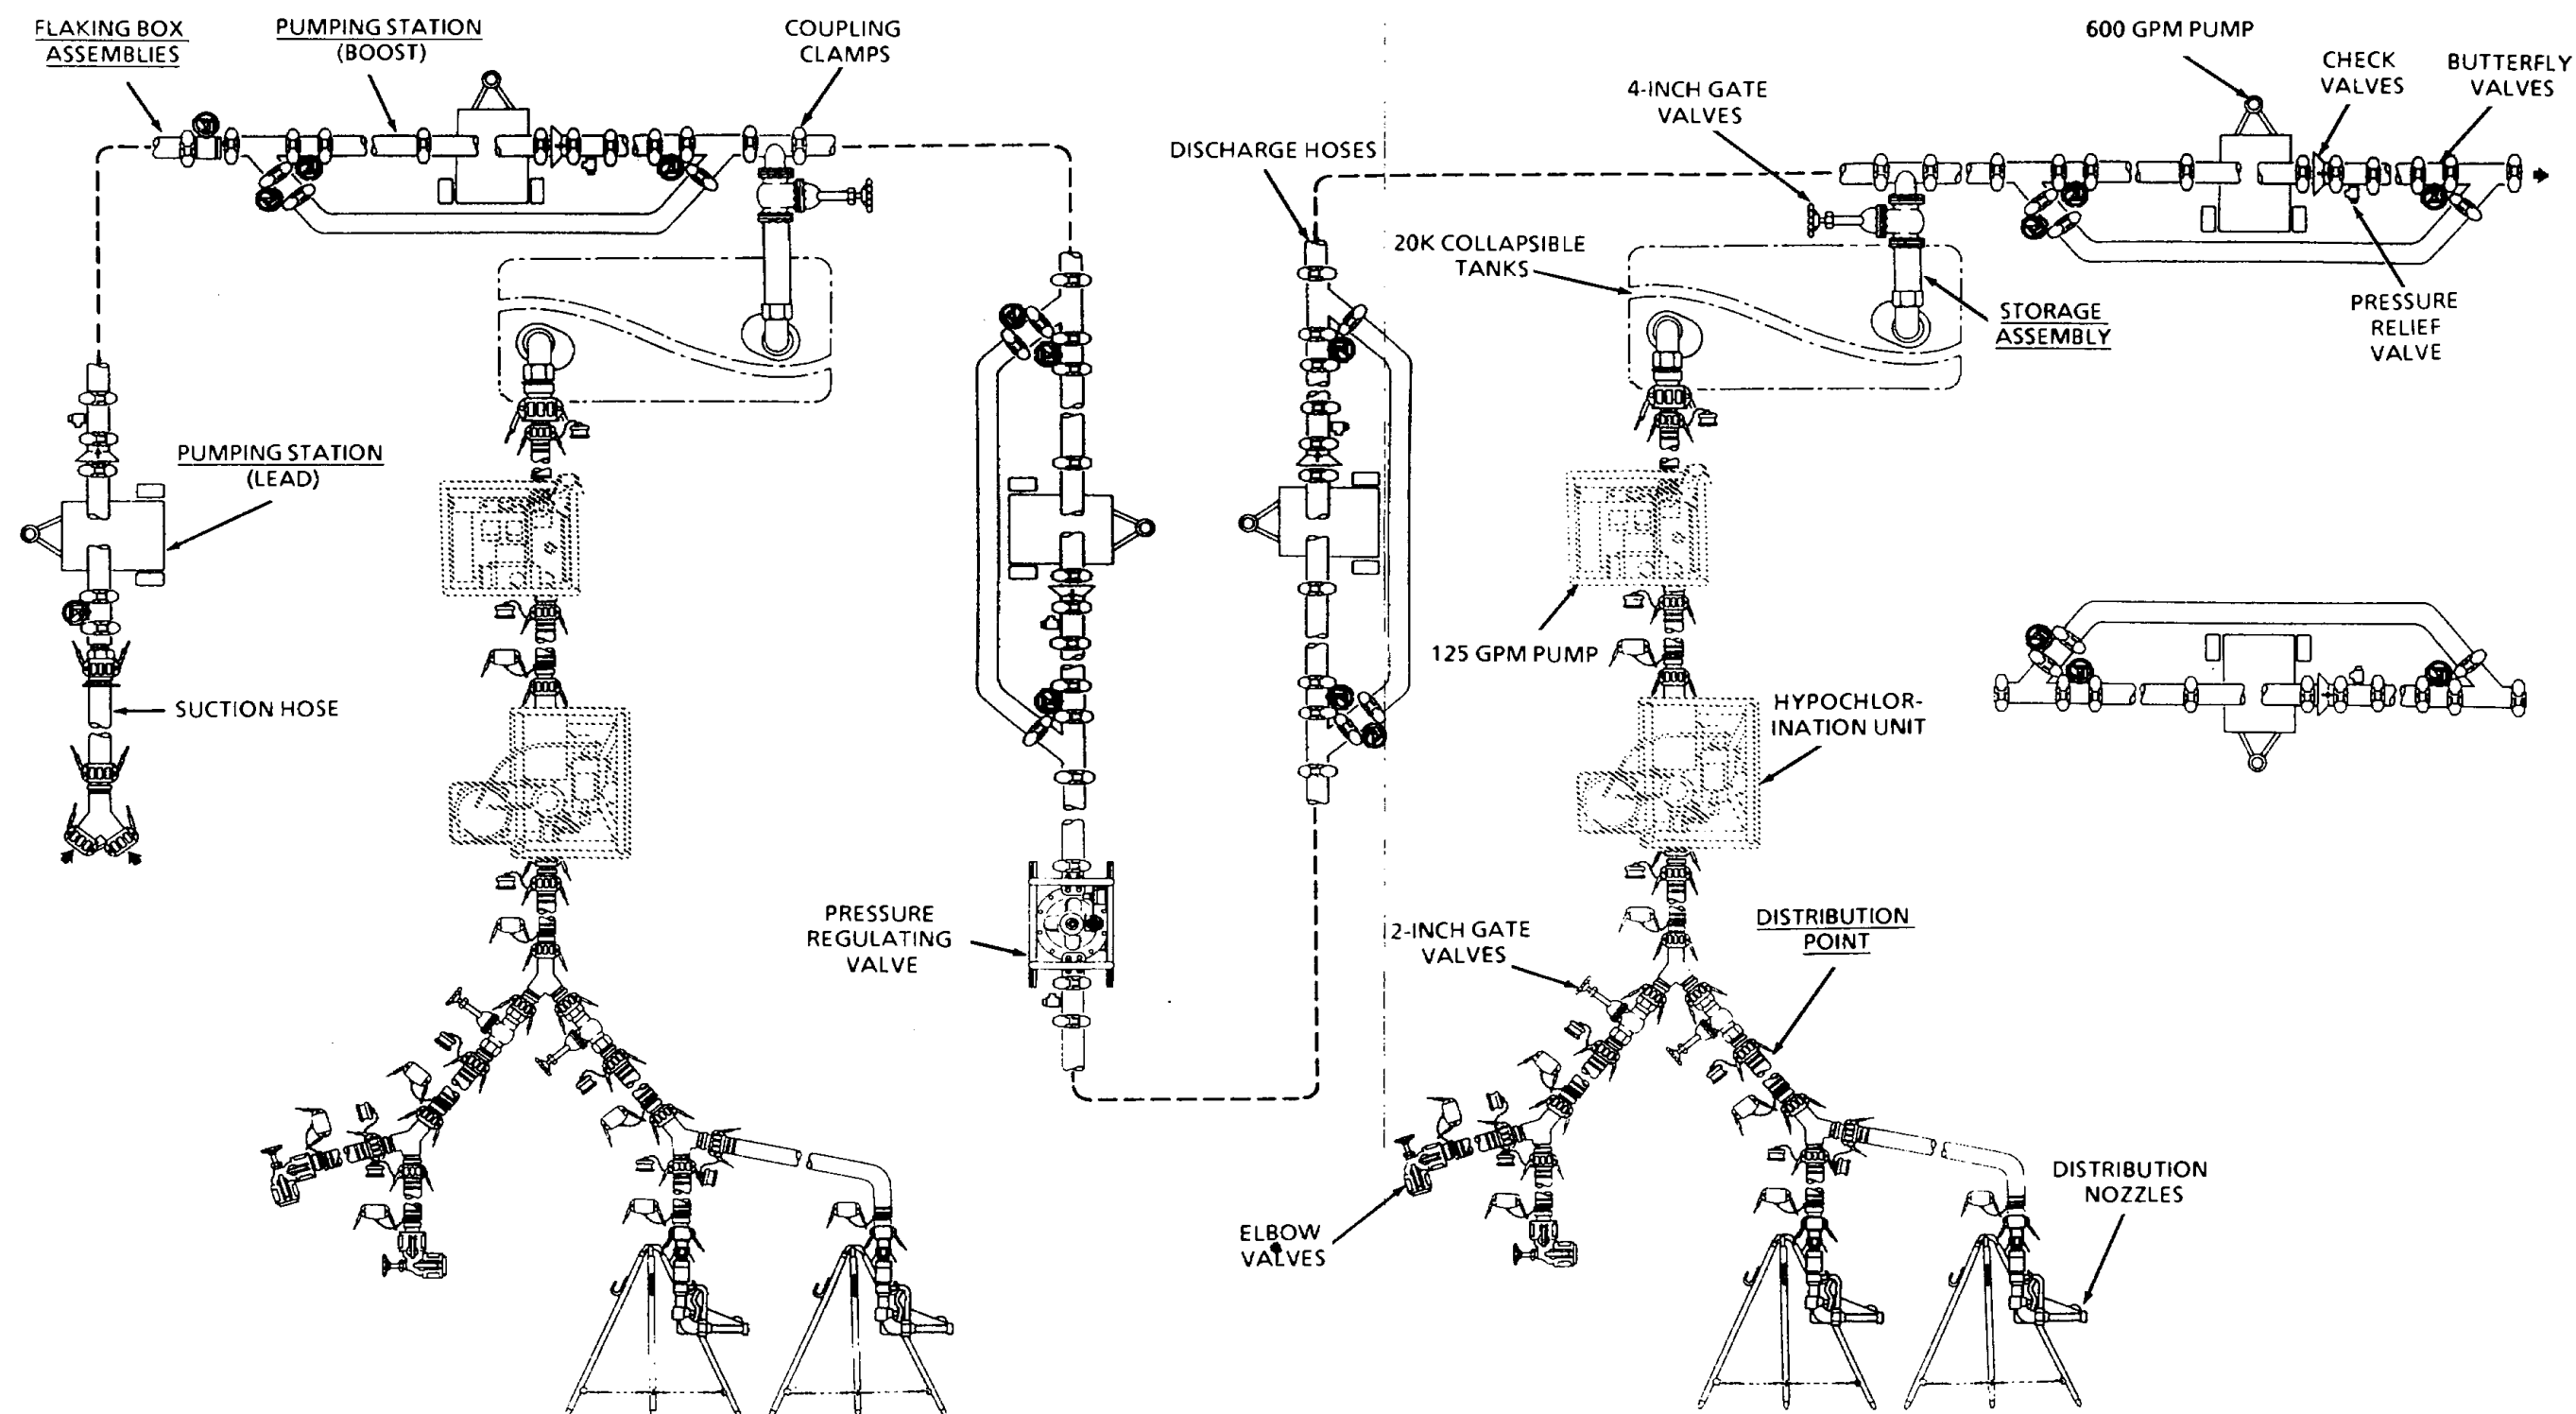

Figure 1-1. Tactical Water Distribution system
- (1) Two storage and distribution points provide a storage capacity of 40,000 gallons Water may be tapped from the main line, stored, treated and dispensed through hand operated distribution nozzles.
- (2) Capable of transporting water at 600 gpm across level terrain
- (3) Can transport approximately 700,000 gallons of water in a 20-hour period
- (4) Can be setup and ready for operation in about 48 hours
- a Flaking Box Assembly Refer to figure 1-1 Sixty-four flaking boxes are supplied with the TWDS Flaking boxes aid setup and recovery of the TWDS hose line
- (1) Flaking Box Used to store and lay discharge hoses. Hoses are flaked into the box for storage and pulled from the box during hose line setup. Removable panels aid repacking. Boxes can be stacked to reduce storage space.
- (2) Discharge Hose The TWDS hose line is made up of 128 6-inch discharge hoses that carry water throughout the system. Each hose is 500 feet long and has a single grooved coupling installed on both ends. Hoses are joined using coupling clamps.